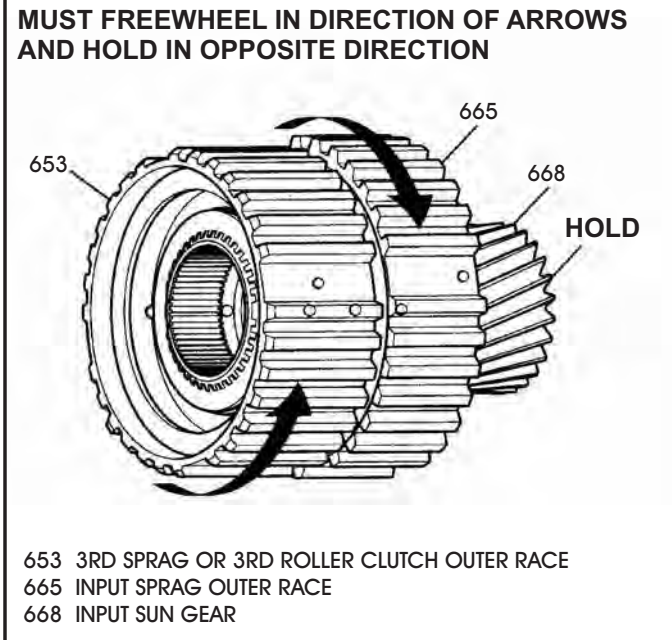

Figure 110
12. Check for proper assembly. While holding the input sun gear, the outer races must freewheel in directions shown in Figure 110.
8. After completion, check for proper assembly. While holding the input sun gear, the outer races must freewheel in the directions that are shown in Figure 110.